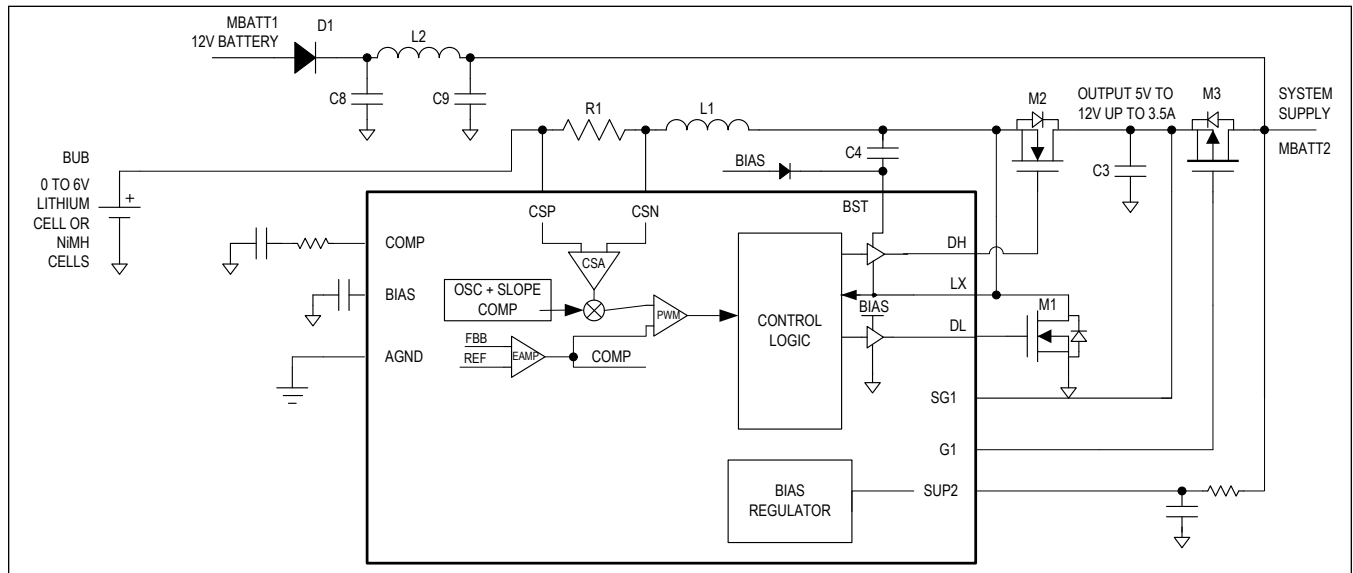

Figure 3. Boost Block Diagram
mode, MOSFET M3 (see Figure 3) is OFF until the boost's overvoltage (OV) falling threshold triggers, and then it turns ON.